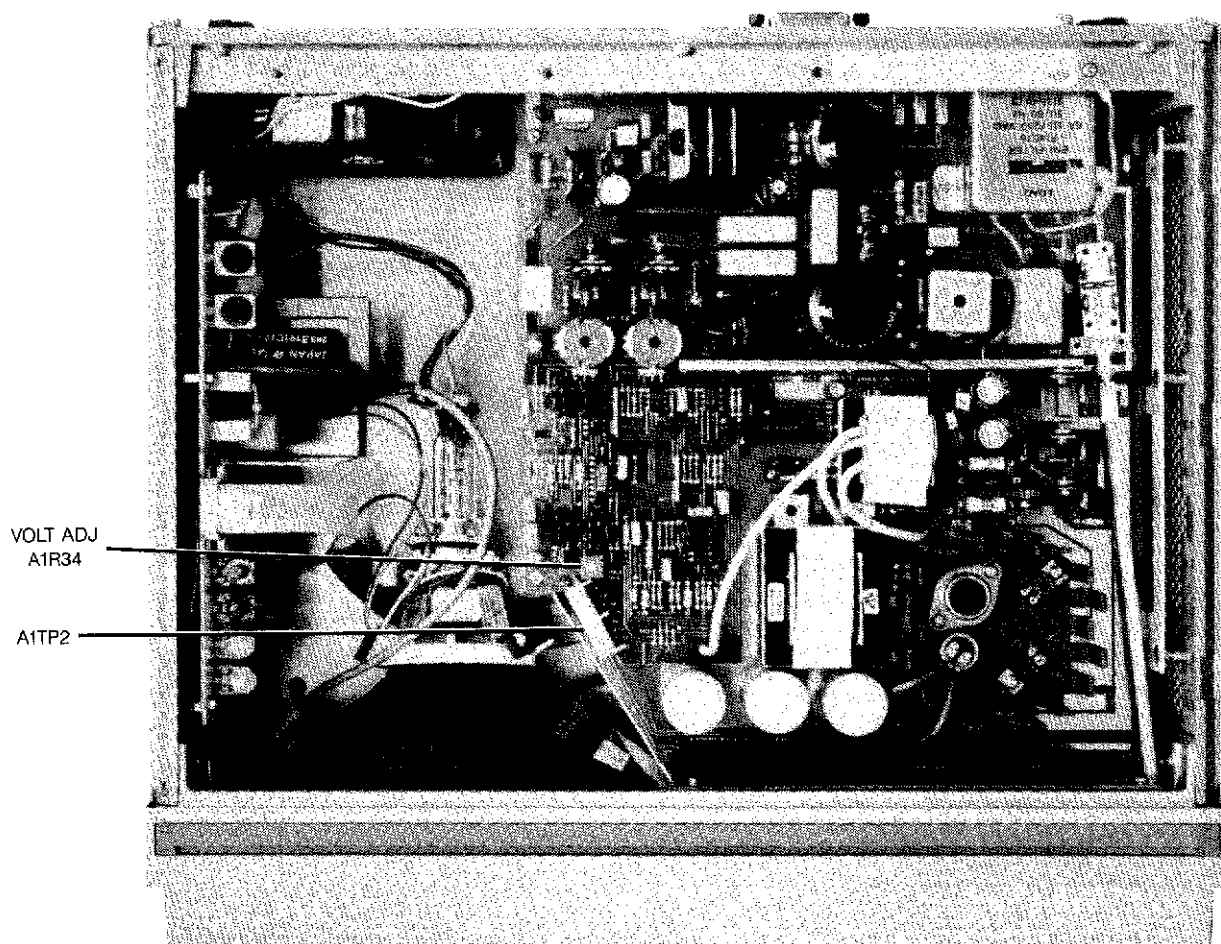

Figure 4-3. Power Supply Adjustment
2. Connect voltmeter ground lead to GND on Power Supply board test connector A1TP2 (figure 4-3).